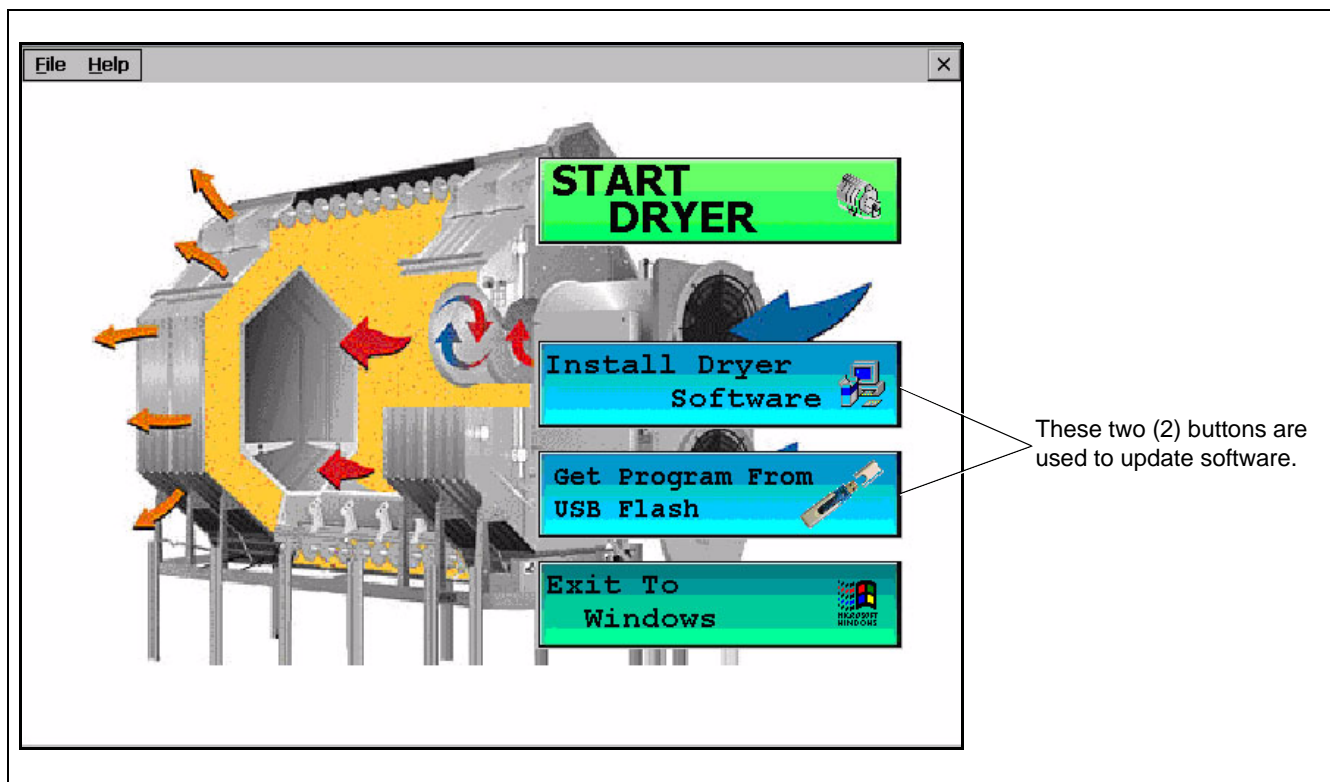

Figure 6A
Turning the Power switch in the ON position, will start the Vision computer. The first screen to appear will be the Boot screen. (See Figure 6A.) Notice that there are four (4) “buttons” on the Boot screen. Install Dryer Software and Get Program From USB Flash buttons are only used for program updates that may be released at a later date. Touching the Start Dryer button will display the Default Operation screen. Touching the Exit To Windows button will close down the dryer program and take you to the Windows CE Operating System.